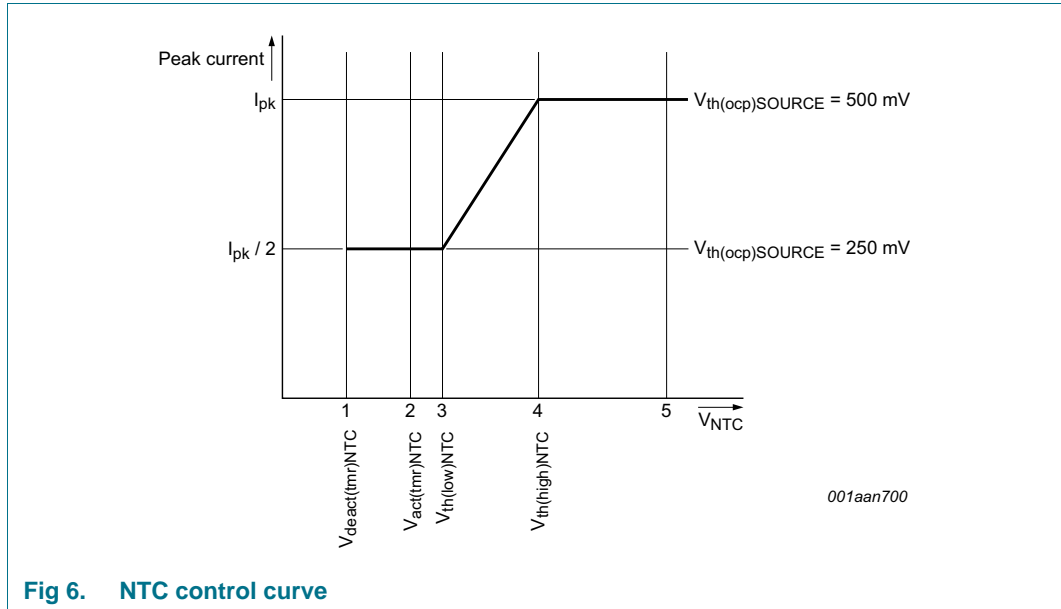

Fig 6. NTC control curve
The NTC pin can be used as a control method for LED thermal protection. Alternatively, the pin can be used as an input to disable/enable light output using a digital signal (PWM regulation). The pin has an internal current source that generates the current of  $I_{\text{offset}(\text{NTC})}$ . An NTC resistor to monitor the LED temperature can be connected directly to the NTC pin. Depending on the resistance value and the corresponding voltage on the NTC pin, the converter reacts as shown in Figure 6.
When the voltage on the NTC pin exceeds  $V_{th(high)NTC}$  (see Figure 6 (4)), the converter delivers nominal output current. When the voltage is lower than this level, the peak current is gradually reduced until  $V_{th(low)NTC}$  is reached (see Figure 6 (3)). The peak current is now half the peak current of nominal operation. When  $V_{act(tmr)NTC}$  is passed (see Figure 6 (2)), a timer starts to run to distinguish between the following situations:
- If the low-level  $V_{deact(tmr)NTC}$  is not reached within time  $t_{to(deact)NTC}$  (see Figure 6 (1)), LED overtemperature is detected. The IC stops switching and attempts to restart from the HV pin voltage. The converter restarts from an NTC protection shutdown when the voltage on the NTC pin exceeds  $V_{th(high)NTC}$  (see Figure 6 (4)). It is assumed that the reduction in peak current does not result in a lower NTC temperature and LED OTP is activated.
- If the low-level  $V_{deact(tmr)NTC}$  is reached within the time  $t_{to(deact)NTC}$  (see Figure 6 (1)) it is assumed that the pin is pulled down externally. The restart function is not triggered. Instead, the output current is reduced to zero. PWM regulation and consequently LED output current regulation can be implemented this way. The output current rises again when the voltage exceeds  $V_{th(low)NTC}$ .
The NTC pin can be used to make a soft start function. During switch-on, the level on the NTC pin is low. By connecting a capacitor (in parallel with the NTC resistor), a time constant can be defined. The time constant causes the level on the NTC pin to increase slowly. When passing level  $V_{th(low)NTC}$  (see Figure 6 (3)), the converter starts with half of the maximum current. The output current slowly increases to maximum when  $V_{th(high)NTC}$  (see Figure 6 (4)) is reached.